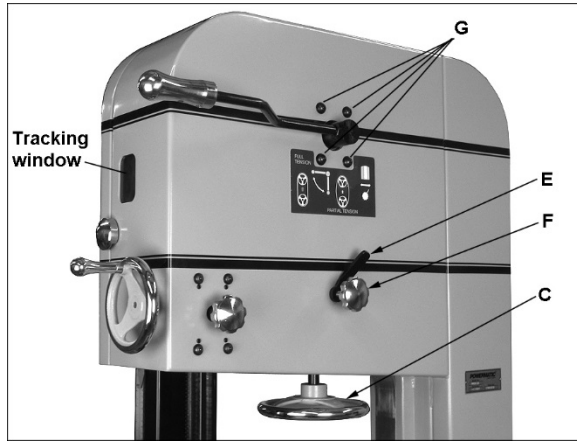

Figure 24: blade tension/tracking
Refer to Figure 24.
3. With blade centered on wheels, move quick tension lever to "Full Tension" position, as shown in Figure 24. NOTE: You will be able to feel the lever fall into each position.
4. Rotate tension handwheel (C, Figure 24) until scale pointer (Figure 25) reaches appropriate measurement for blade width.
4. Set quick tension lever to "Full Tension" position, as shown in Figure 24.
IMPORTANT: Make tracking adjustments with knob (F, Figure 24) while blade is at full tension. DO NOT use screws (G, Figure 24); these were used by the manufacturer for wheel alignment and should NOT be used for tracking.
6. If blade tends to move toward edge of wheel, loosen locking lever (E, Figure 24) and slightly rotate tracking knob (F) with your right hand while continuing to rotate wheel with your left. Observe blade through tracking window. Rotate tracking knob clockwise to move blade toward rear edge of wheel. Rotate counterclockwise to move blade toward front edge of wheel.